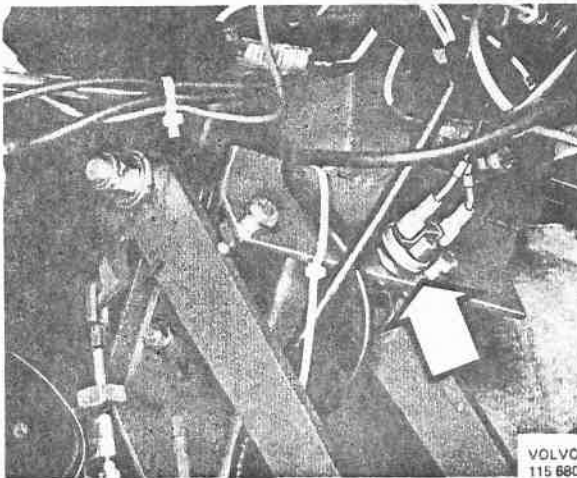

Fig. 38-19. Contact for stop lights
1. Disconnect the cables and remove the nut securing the contact, see Fig. 38-19, to the bracket.